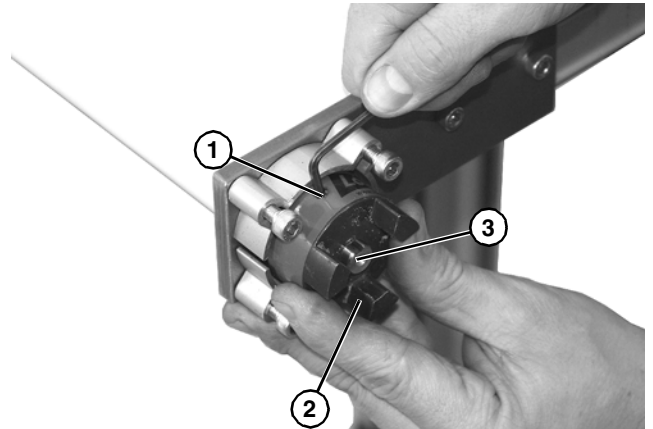

Figure 17
8. Loosen set screw (**Figure 17, item 1**), and remove three jaw coupling (**Figure 17, item 2**) from shaft (**Figure 17, item 3**).